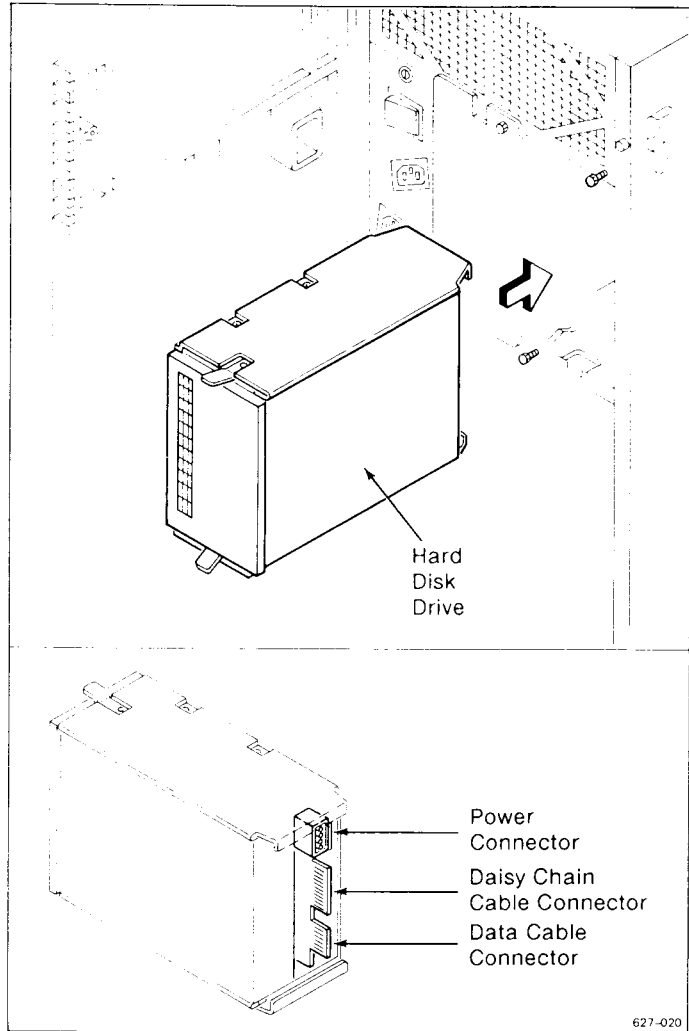

Figure 8-4. Installing a Hard Disk Drive
3. Position the drive so that the cable connectors are closest to the CPU pan assembly. See the *MightyFrame Peripherals Manual* for more information on your drive. Figure 8-4 contains an example of positioning a drive.